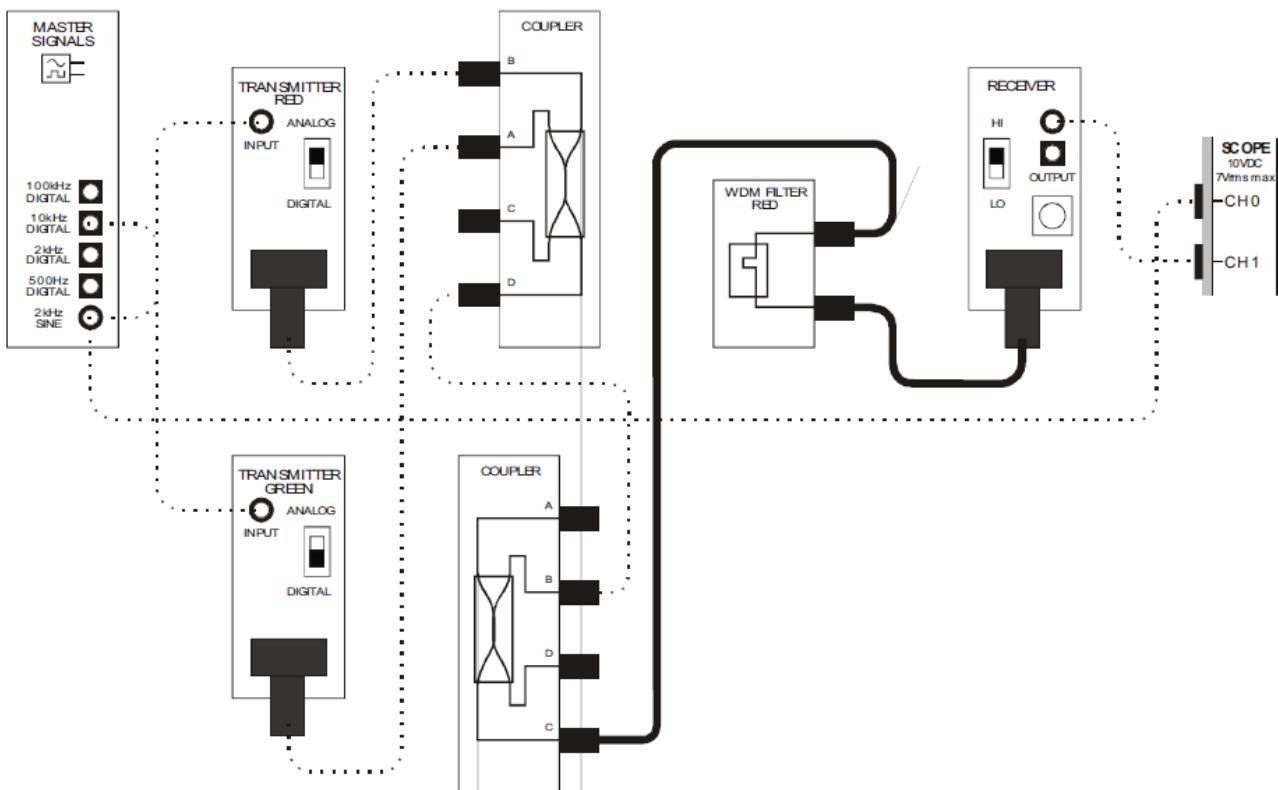

Figure 6
23. Modify the set-up as shown in Figure 6 below.